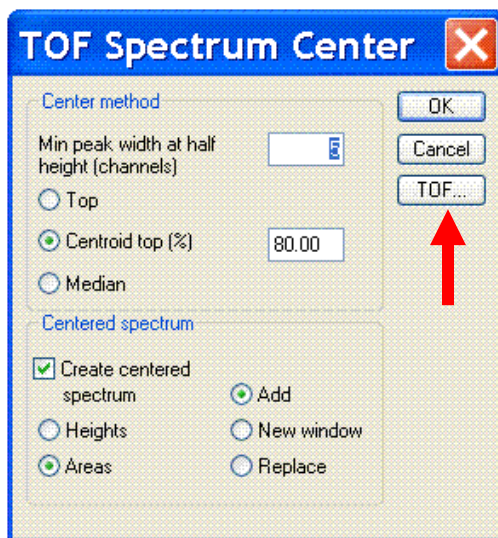

Figure 12
- b. Ensure the parameters are as seen in Figure 12.